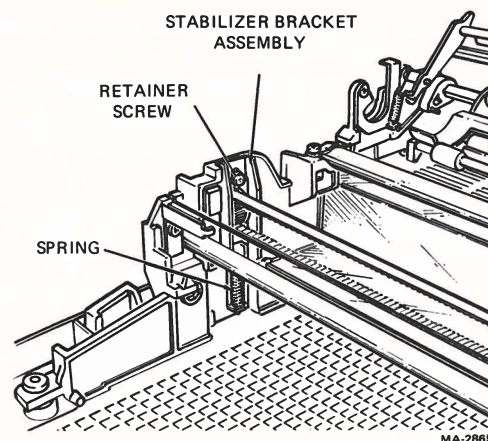

Figure 2-17 Pulley/Tension Assembly Removal
2. Remove the spring from the bottom of the idler stabilizer bracket (Figure 2-17).
3. Lift the idler stabilizer bracket assembly over the retainer screw (Figure 2-17).